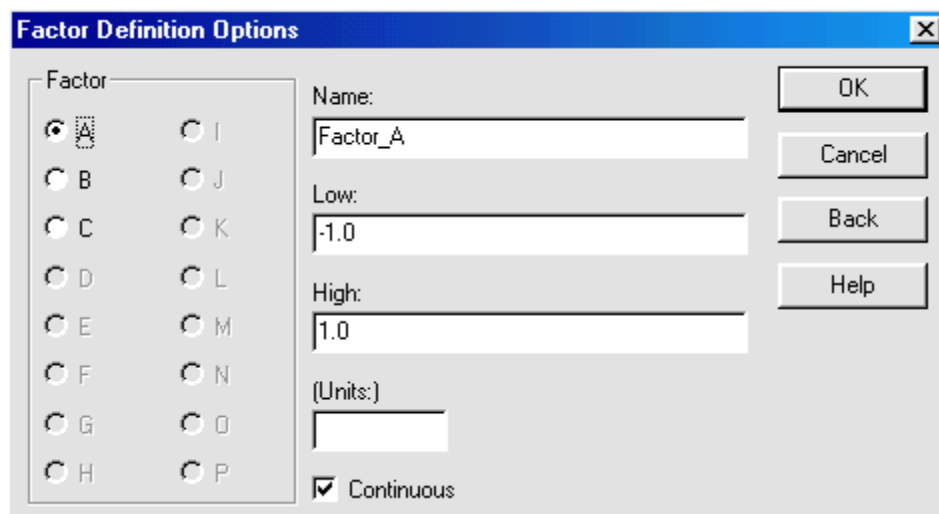

Figure 3-2. Factor Definition Options Dialog Box
3. Click OK to display the Factor Definition Options dialog box shown in Figure 3-2.